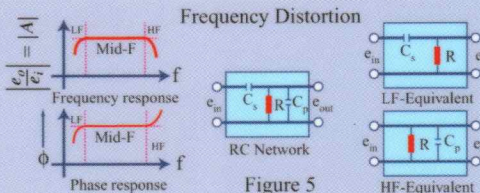

Figure 5
**• Frequency distortion:** Due to the presence of capacitive (C) and/or inductive (L) elements in the circuit, a complex signal (composed of a spectrum of several frequency components) will face filtering of its components, inasmuch as the reactances offered by C and/or L elements are frequency-dependent. As a result, the transfer function relating the input and the output would vary as a function of frequency.
**Example,** a voltage amplifier which is expected to provide a constant voltage gain (output voltage to input voltage ratio) for any frequency of the input signal may yield a varying gain versus frequency plot as shown (Fig.5). The drooping of A (gain) versus f (frequency) curve at high (HF) and low (LF) frequencies is, for example, due to low reactance of the shunt capacitance  $C_p$  and high reactance of series capacitance  $C_s$  respectively.
**• Phase distortion:** Considering the input and output signals, their relative phase angle is again decided by C (and/or L) elements present in the circuit. Hence, their phase difference is frequency-dependent. For a complex input signal (with a spectrum of frequency components), the phase angle ( $\phi$ ) of the transfer function of the circuit when plotted against frequency is typically as shown (Fig.5). Except over a midrange of frequencies,  $\phi$  varies at low and high frequencies due to series and shunt capacitive elements of the circuit respectively (or respectively due to shunt and series inductive elements, if present).